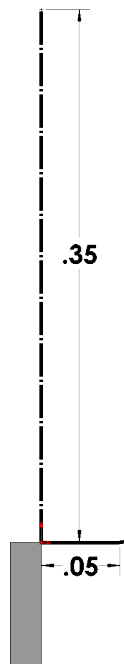

Fig. 11
Step 12. Click the top endpoint of the vertical construction line to start the arc. Click right endpoint of the line for first endpoint of arc. Then move cursor counterclockwise. Click to place the second endpoint, Fig. 11.